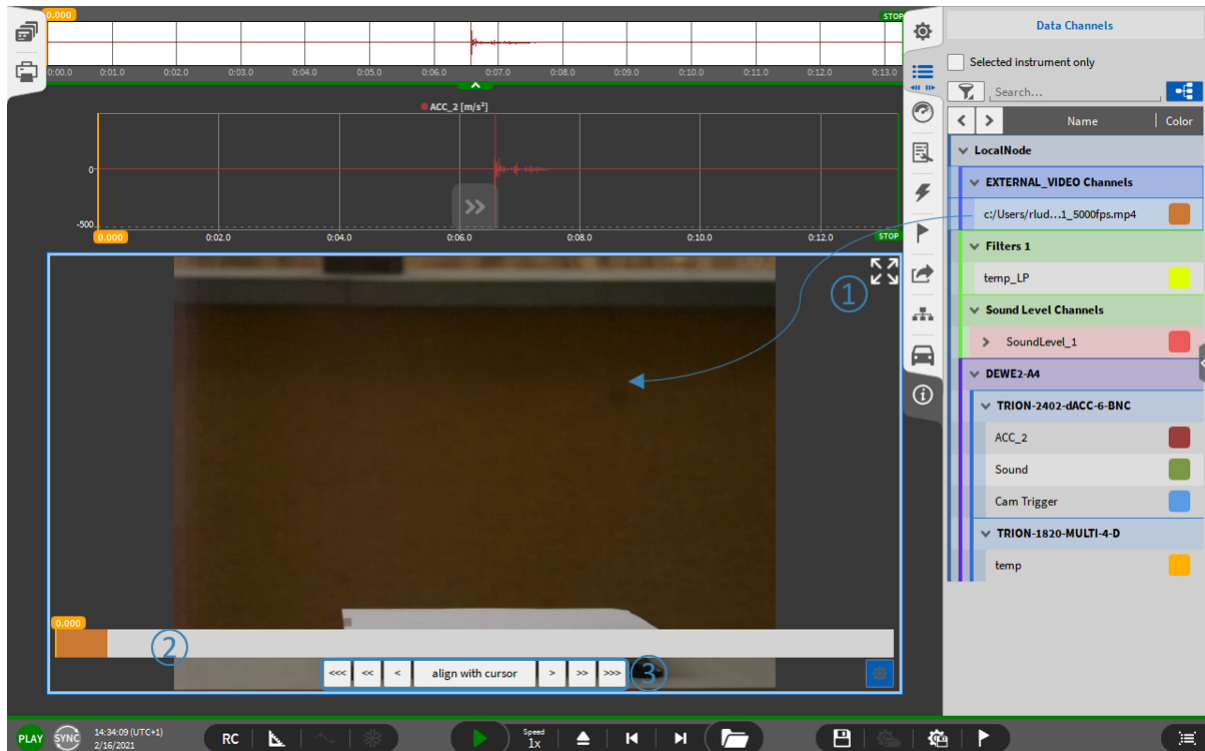

Fig. 7.165: Manual delay compensation between video and sensor data
1. Go to the measurement screen and drop the external video channel to the measurement screen (see ① in Fig. 7.165). This will create a video instrument including the video.
The timebar shows the actual position of the video within the OXYGEN data file (see ② in Fig. 7.165)
2. The buttons (see ③ in Fig. 7.165) can be used to change the position of the video within the data file